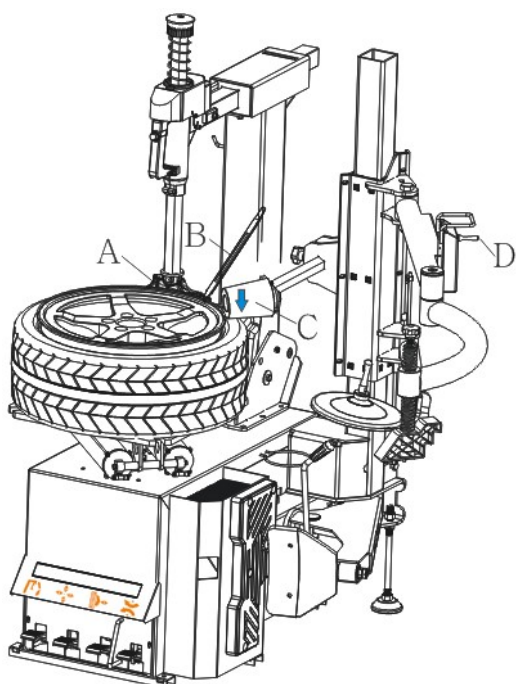

Fig. 10
- Place the mounting head A and roller C in position (use switch D to up/down the roller), insert the crowbar B (Fig. 10)